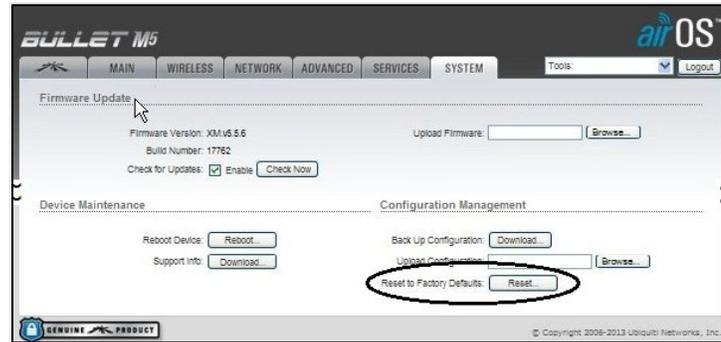

Figure 13 Reset to Defaults from within Firmware
- a. Go to the **SYSTEM** tab (Figure 13).